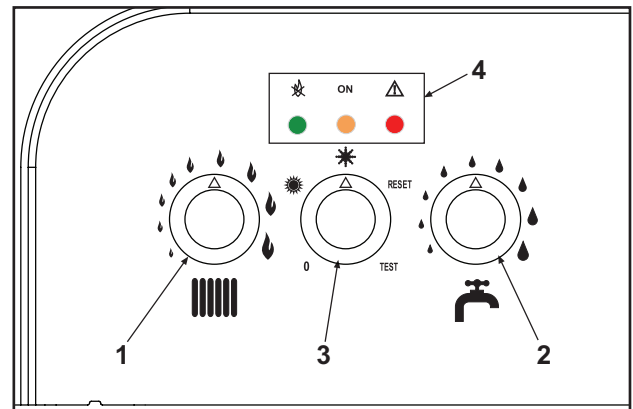

Fig. 1
During normal operation, the boiler diagnostics control sends information on the state of the boiler via the LEDs (4 - fig.1):
- turn the hot water knob (ref. 2 - fig 1) onto minimum (for Natural Gas operation) or onto maximum (for LPG operation)
- turn the heating knob (ref. 1 - fig 1) onto minimum and then onto maximum